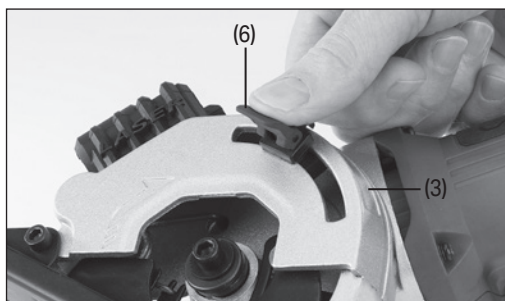

Fig. 1
6.1 Setting the Cutting Depth (Fig.1)